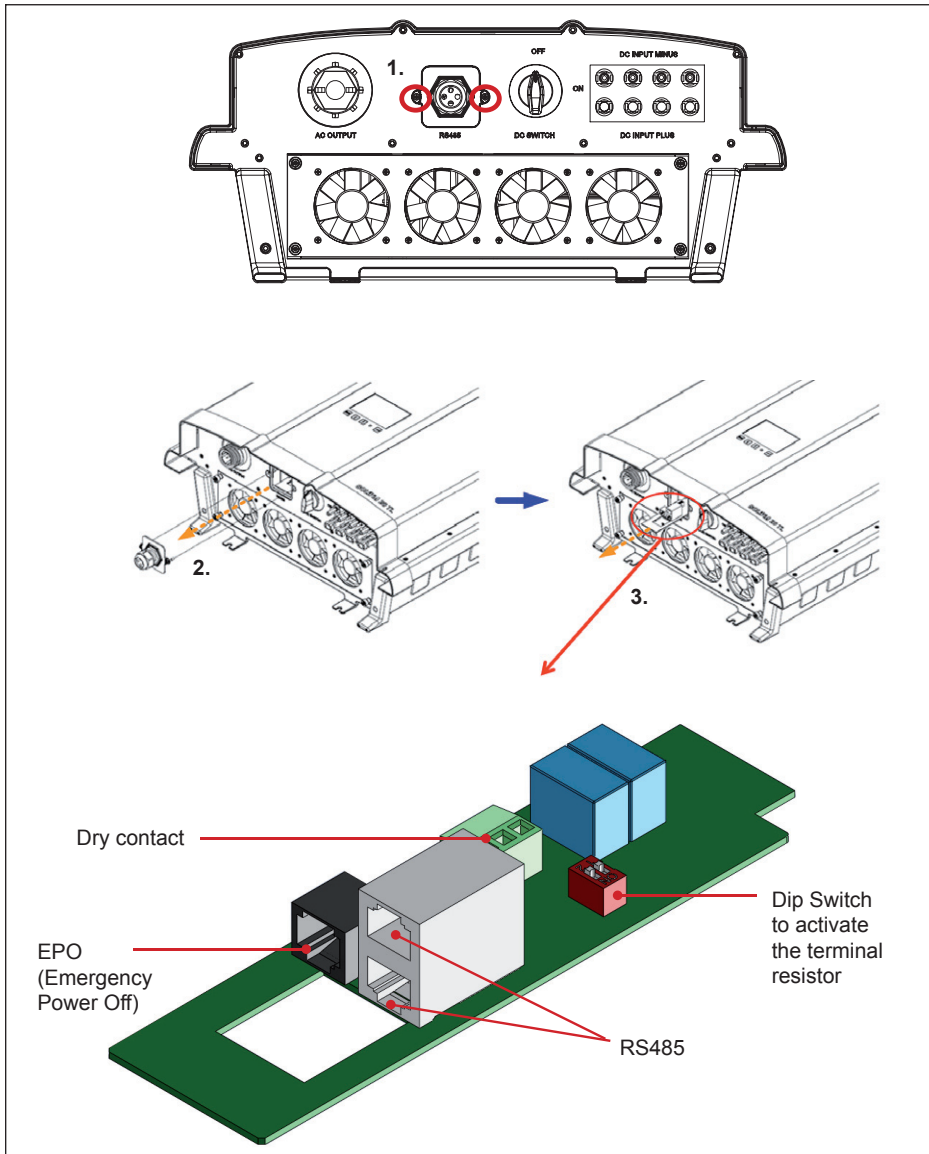

Figure 5.10.: Communication module removal
The communication module supports the communication functions with a computer, also provides 1 EPO (Emergency Power Off) and 2 sets of dry contacts. The parts of the communication module are shown in Figure 5.10. The function of each part is detailed in sections 5.5.1 ... 5.5.3.
1. Unscrew and remove the two Phillips screws highlighted in red in Figure 5.10.